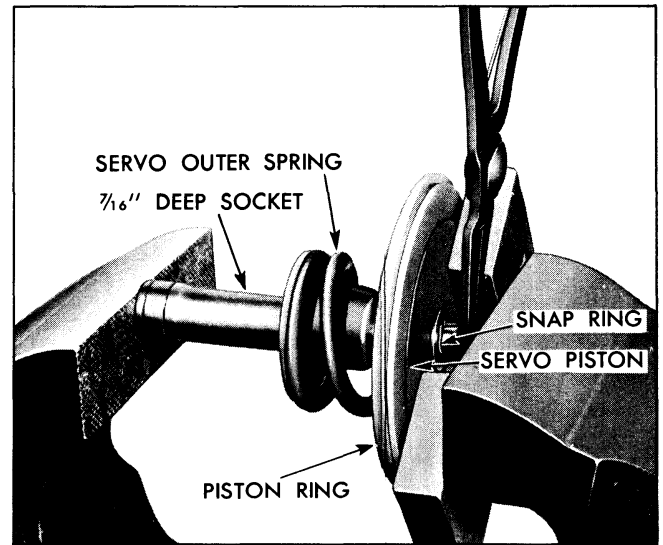

Fig. 7C-105 Method of Removing Snap Ring from Servo Piston Pin
3. Place the assembled servo components with a $\frac{7}{16}$ " deep socket over the piston pin and "U" shaped spacer against the servo piston into a vise and, aligning pin carefully, compress the assembly to allow the flat washer and snap ring to be installed (Fig. 7C-98).
The following inspection procedure is to be used for the compensator valve body, the 3-4 boost body, and the control valve body (Fig. 7C-107).